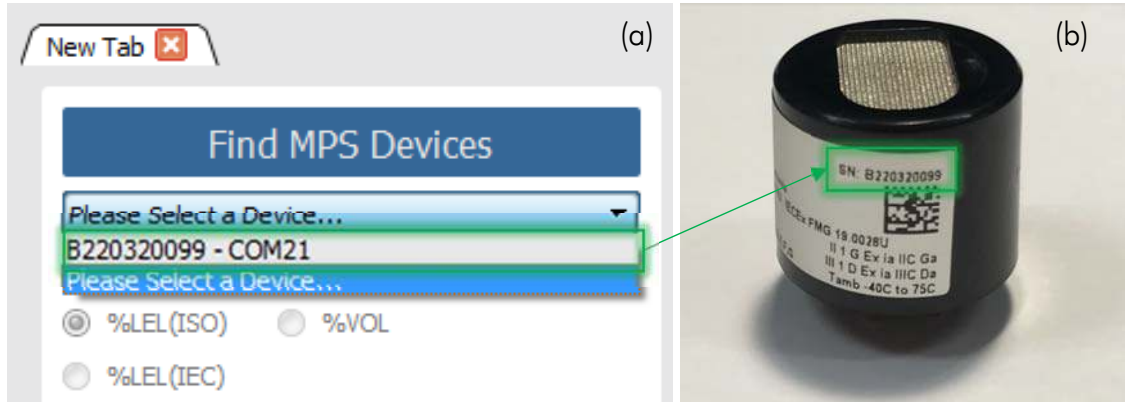

Figure 4 – (a) Selecting the active MPS™ Flammable Gas Sensor. (b) Device serial number
- Click the “Find MPS Devices” button and select the MPS Flammable Gas Sensor connected to the computer (Figure 4). The sensor name is found on the sensor serial number in the form: Bxxxxxxx.